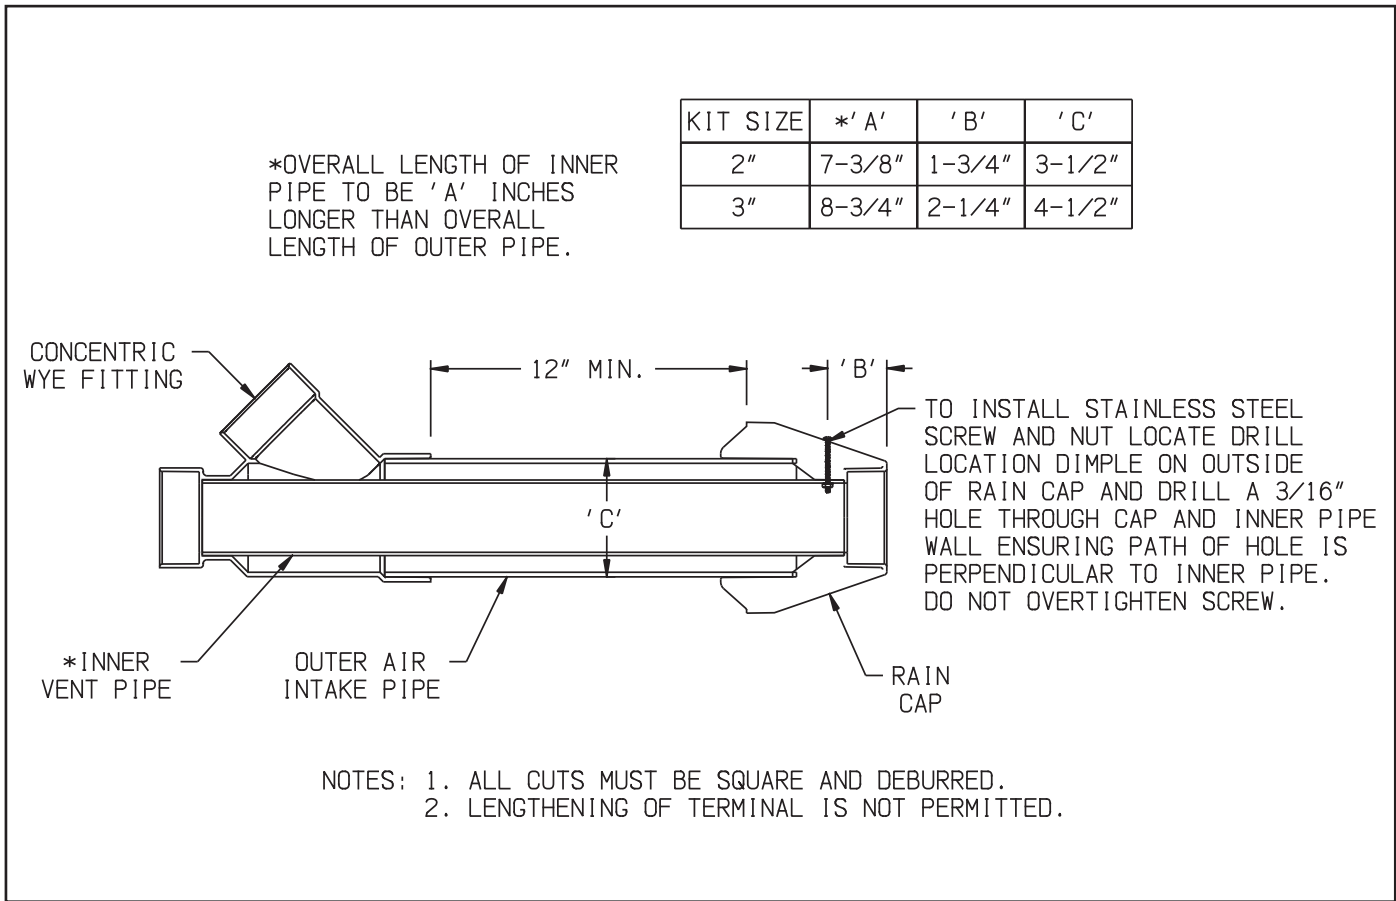

Figure 7.31: Cutting IPEX and Diversitech Concentric Vent Terminals
- a. For horizontal installations at the planned location cut a round hole in the exterior wall 1/2" larger than the "C" dimension indicated on Figure 7.31 for the size terminal being used. (See Part VII-B of this manual for permitted terminal locations).
- c. If desired, the terminal can be shortened. See Figure 7.31 for specific information on making the terminal kit shorter based on the kit size being used. Cut the pipe squarely and de-burr both the OD and ID of the cut edges.
- h. Cement the rain cap onto the inner pipe. If desired, the rain cap can be attached to the inner pipe with the supplied stainless steel screw and nut so that it can be later removed for cleaning and inspection. If this is done, drill a 3/16" clearance hole in the rain cap and inner pipe in the location shown on Figure 7.31 for the size terminal kit being used and affix screw and nut. Do not overtighten. A field supplied rodent screen may also be installed on the end of the rain cap.